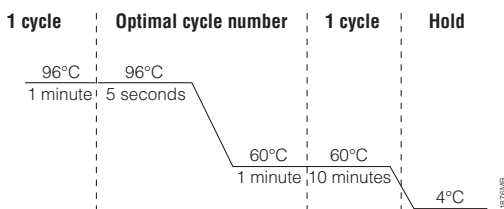

Figure 31. Thermal cycling protocol for the GeneAmp® PCR System 9700, Veriti® 96-Well Thermal Cycler and ProFlex™ PCR System.
- Select and run the recommended protocol, which is provided below and in Figure 31. The total cycling time is approximately 1 hour.